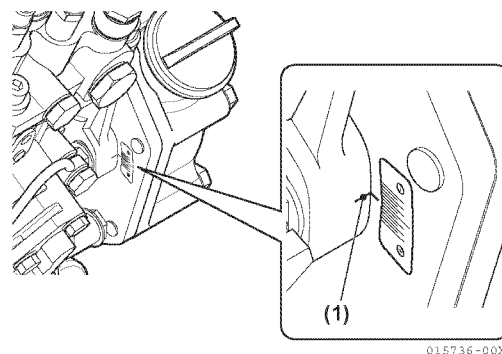

Figure 6-73
In this case, rotate the top of the fuel injection pump away from the cylinder block until the mark on the outside upper mounting boss (**Figure 6-73, (1)**) of the fuel injection pump aligns with the +0.5° mark on the timing sticker.